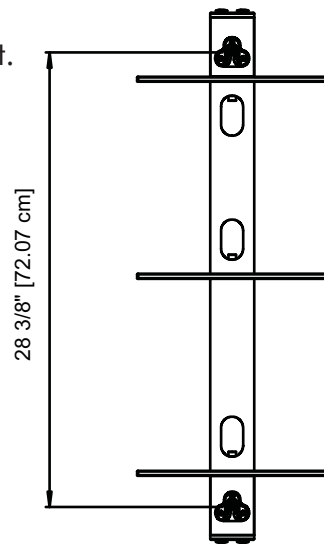

Figure 12
- Attach **Screw (G)** to **Anchor** leaving approximately 3/8" (0.95 cm) of screw revealed.
- Refer to Figure 12 and 13.